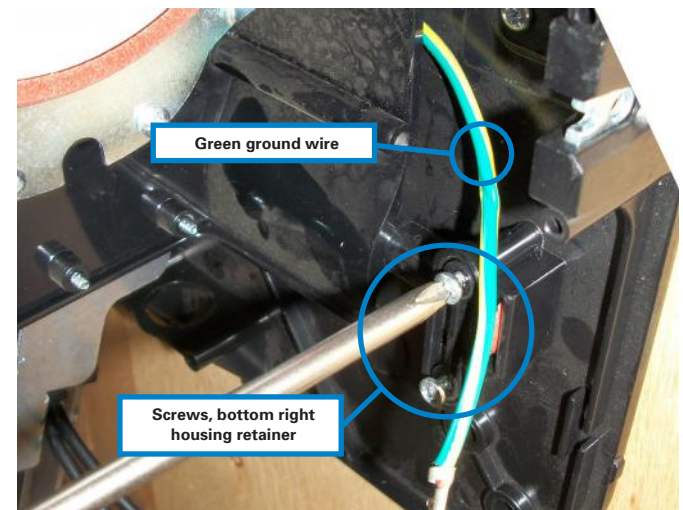

Figure 4
4. Remove the two (2) screws and one plastic housing retainer holding down the foot of the dryer. (Figure 4)